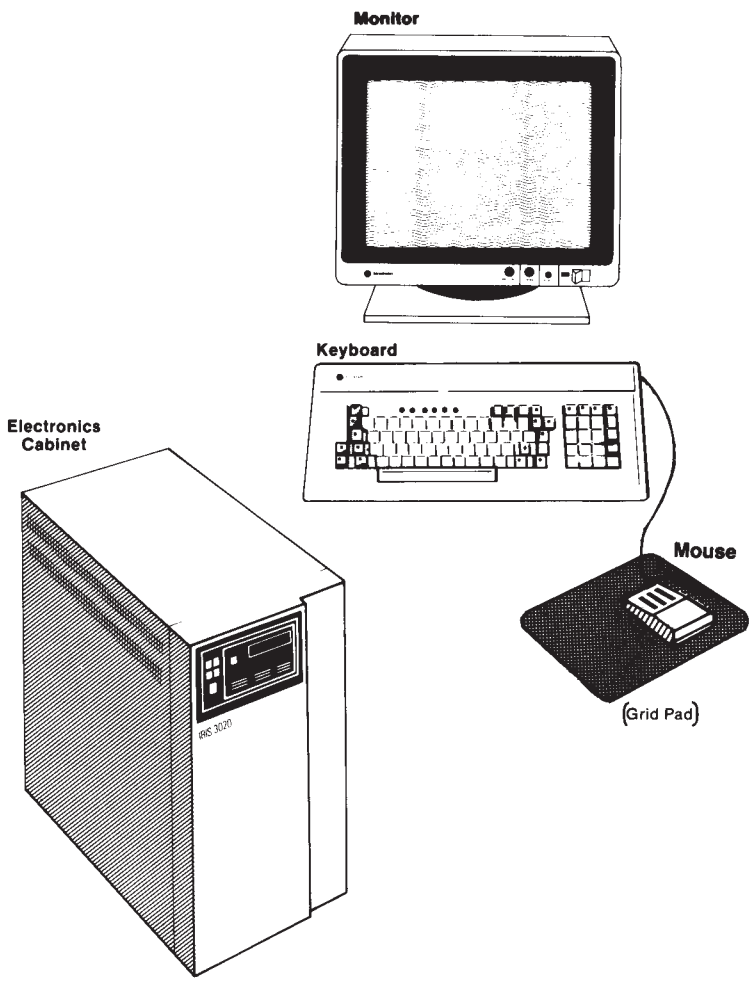
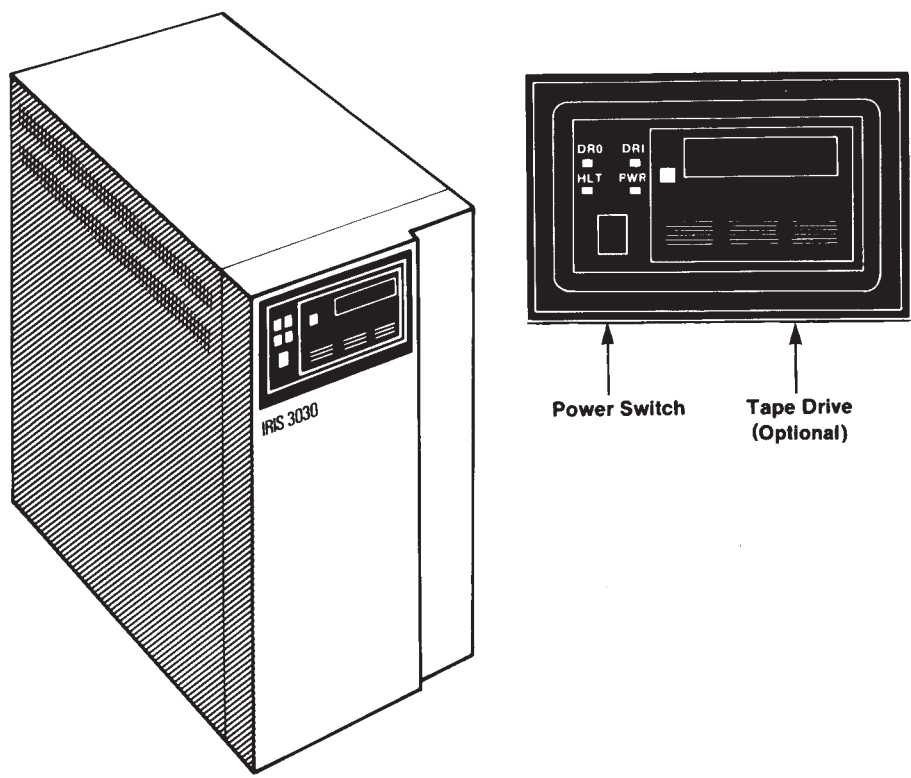
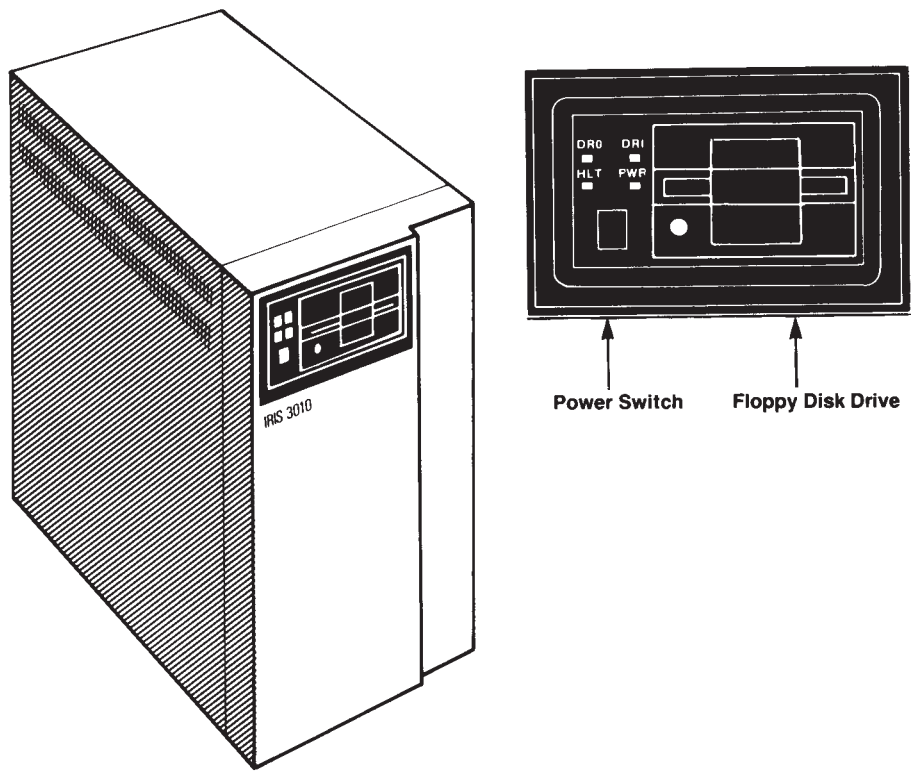

Figure 2-1: IRIS Series 3000 System
Figure 2-2: IRIS 3030 Cabinet Front Panel (IRIS 3020 Similar)
Figure 2-3: IRIS 3010 Cabinet Front Panel
This chapter describes how to install and connect the standard components of the IRIS 3000 series systems (see Figure 2-1).
- The *electronics cabinet* for the standard configuration of the IRIS series 3000 is a floor-standing unit with a 20-slot backplane, a disk drive, and a power supply (see Figure 2-1). The cabinet uses forced-air cooling and is mounted on casters. A quarter-inch cartridge tape drive (internal) or a half-inch streaming tape drive (external) is optional on the IRIS workstation (see Figure 2-2). A floppy disk drive is standard on the IRIS terminal (see Figure 2-3). See Chapter 6 for disk specifications and Chapter 7 for tape specifications.